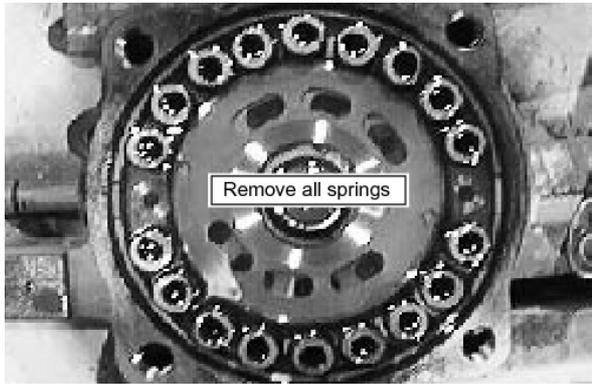

Fig. 8-12
10. Carefully remove all brake springs and place in a container filled with fresh, clean hydraulic oil. Then, seal the container to prevent contamination. See Fig. 8-12.